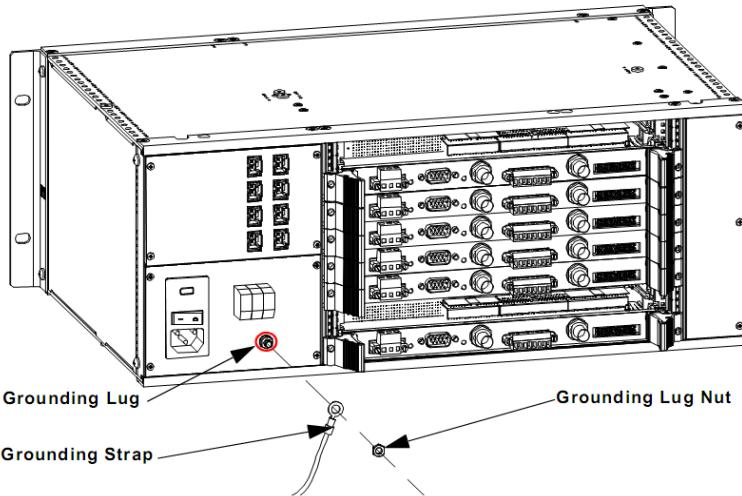

Figure 0-5 Connecting the Grounding Strap to the Indoor Unit Chassis
- 2.2. Connect a grounding strap to the indoor unit's grounding pole, as shown in Figure 0-5 Connecting the Grounding Strap to the Indoor Unit Chassis. Make certain that this grounding strap is a heavy gauge wire (10-12 AWG). You should also have ring terminals at both ends of the strap.